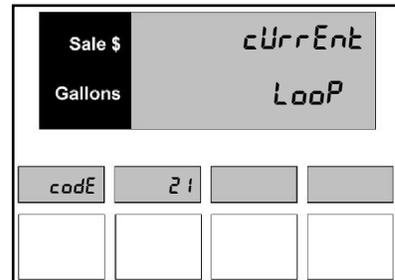

Figure 21.1 – Communication Type
1. Press the number **2** and **1**, then the **Mode** button on the keypad. The PPV display shows the dispenser is in Menu Code 21. If the dispenser has not been programmed since it came from the factory, the default setting is 0 for Current Loop as shown in *Figure 21.1*.